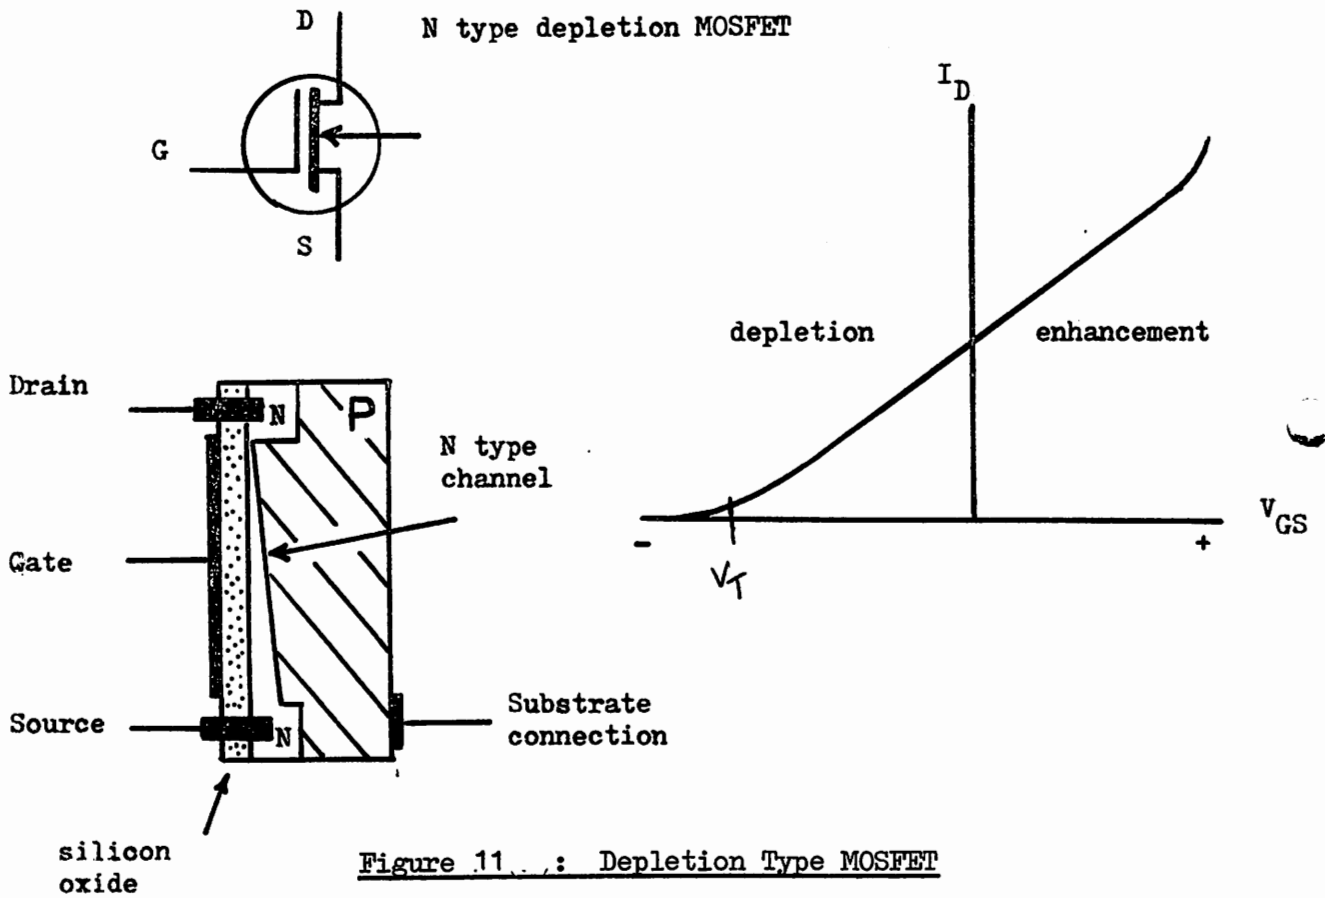

Figure 11: Depletion Type MOSFET
7.6 Figure 11 & 12 illustrate the construction of the two basic types of MOSFET. In the depletion type the source gate channel is 'built' into the device by suitably doping the substrate whereas in the enhancement type the channel is induced in the substrate by voltages applied to the gate. The depletion type device is similar to a JFET in that it conducts with zero gate-source bias whereas an enhancement type device will not. In all other respects the circuit action is similar to that of a JFET.